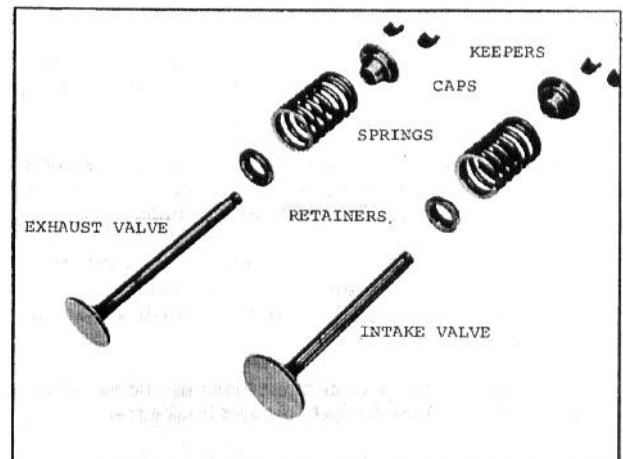

Fig. 4 - Intake and Exhaust Valve Assemblies
1. Lubricate valve stems and guides with engine oil. Using a valve spring compressor, install the valves into their proper guides. (Refer to Fig. 4.)